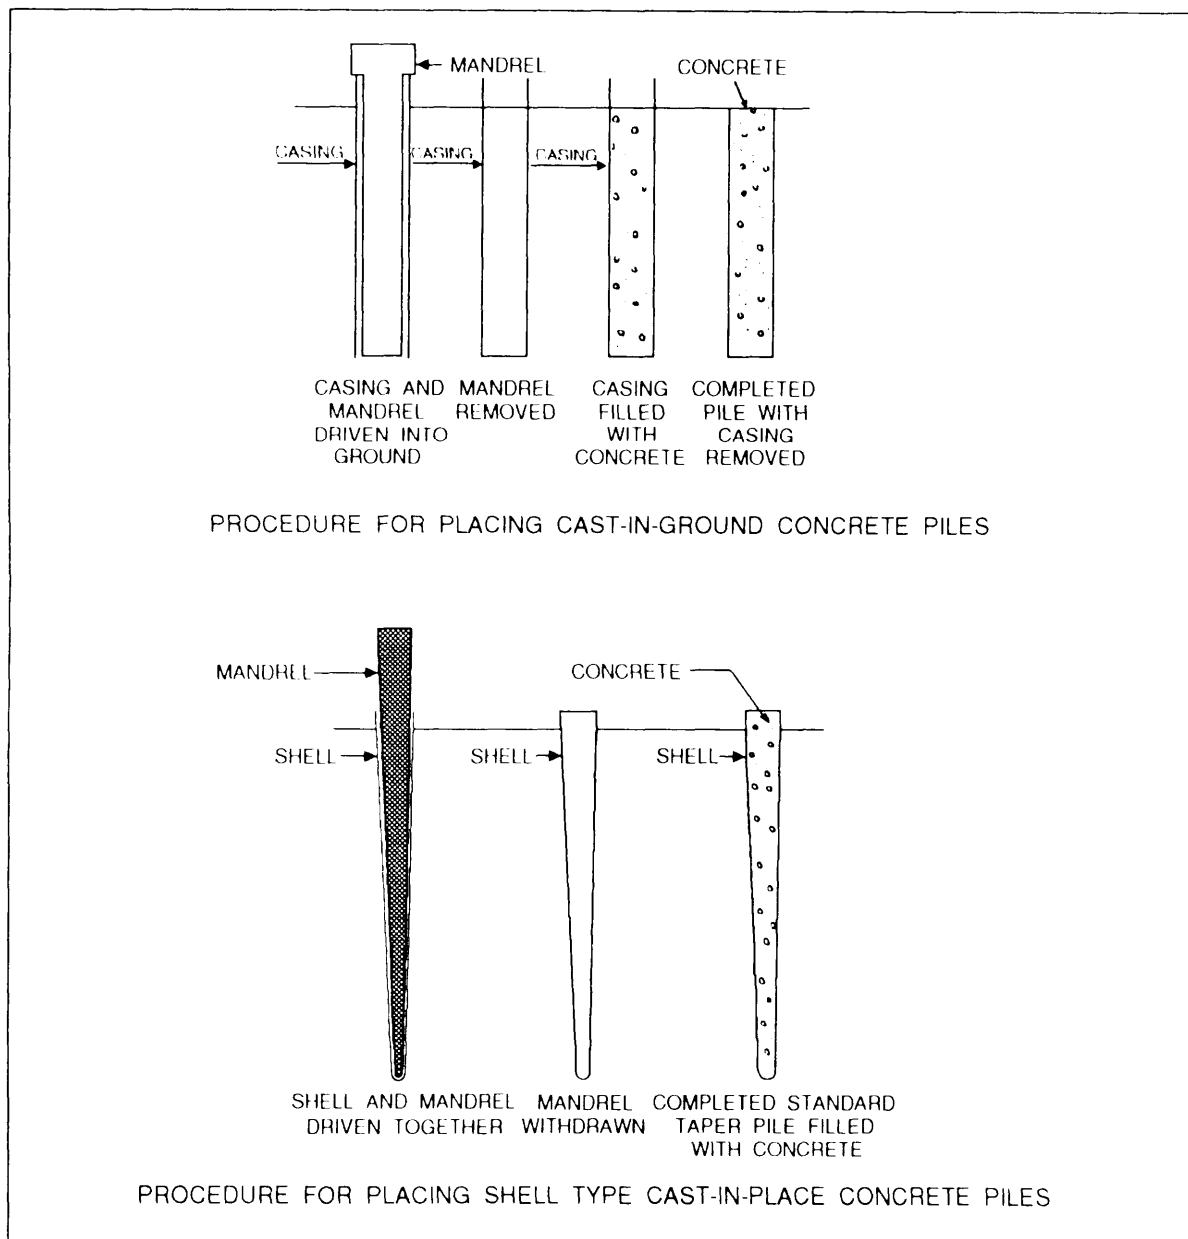

Figure 12-77.—Cast-in-place concrete piles.
- Cast-in-place concrete piles may be used when conditions are favorable. They are made by pouring concrete into a tapered hole or cylindrical form previously driven into the ground or into a hole in the ground from which a driven mandrel has been withdrawn. The left-in-place form may be a steel shell heavy enough to be driven without a mandrel, or it may be a steel form designed for driving with a mandrel that is removed on completion of driving (fig. 12-77).